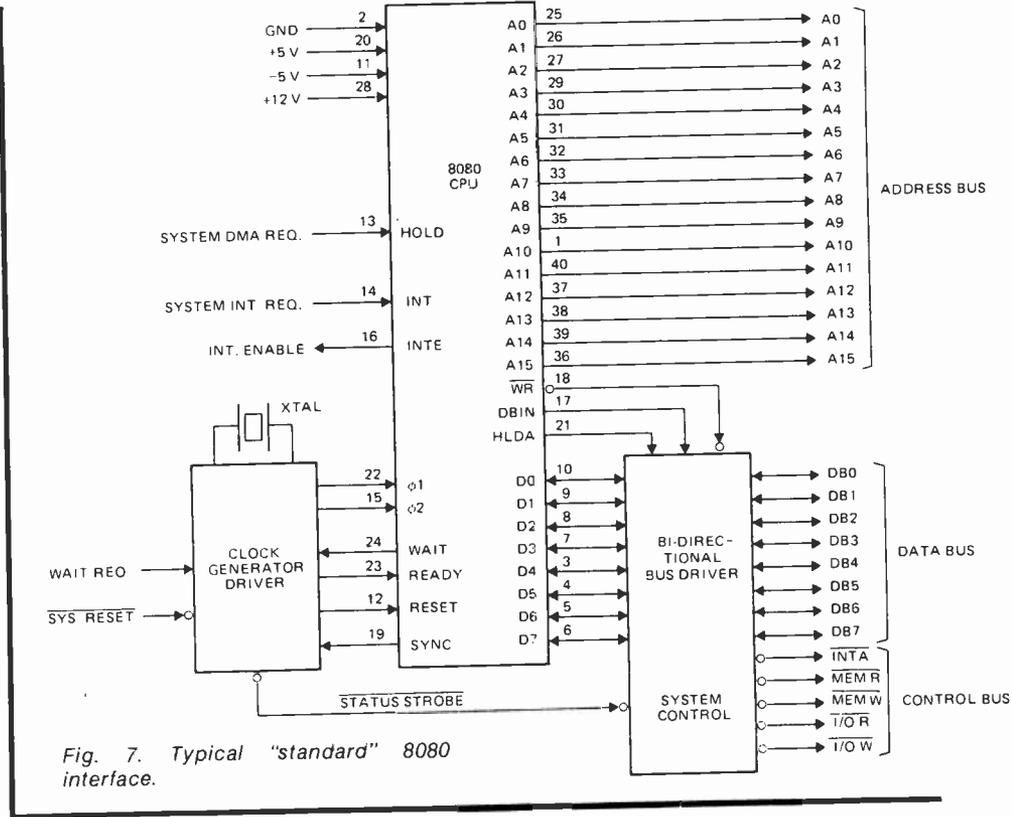

Fig. 7. Typical "standard" 8080 interface.
Although the number of support chips required, and the bus multiplexing were vastly reduced, some basic support chips are still needed. This is illustrated by figures 7 and 8.
As may be noticed in figure 7, some system control lines are derived from the data bus. The use of an outside chip to demultiplex this data bus may seem a nuisance. In fact it is not, because the same chip also buffers the data lines, something
**8228/8238 System Controllers.** These chips buffer the data bus, as they demultiplex various control signals, see figure 7. The 8238 puts out slightly different write signals for use in larger systems.